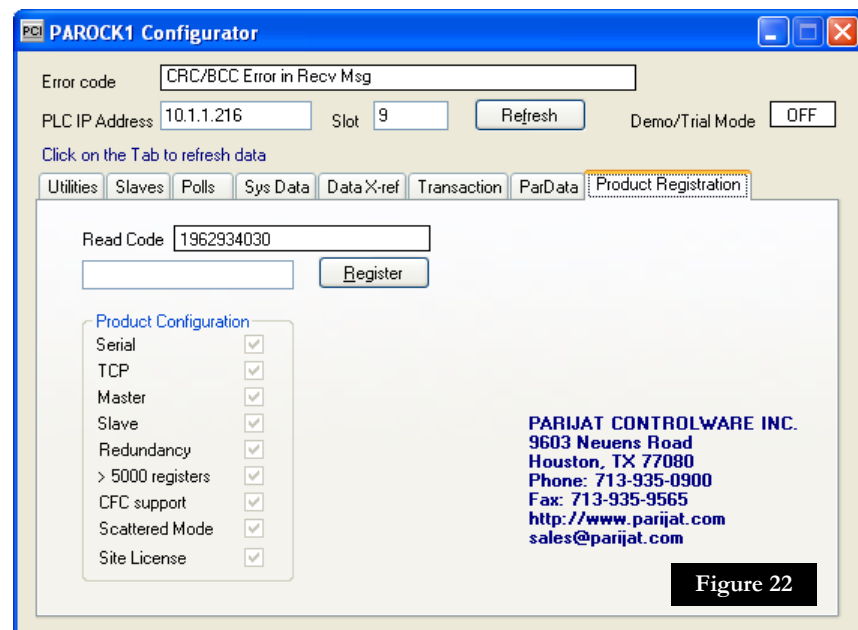

Figure 22
**Product Registration**—Use this section of the application to register your product with Parijat and also to know what options are currently installed. The instruction is always provided in demo/trial mode. This time-locked mode is a fully functional mode for the trial period of about 2 hours after a program-to-run transition of the PLC. You need to use the Parijat Configurator application to unlock/register the product, as is shown in Figure 22. The registration is done on a per PLC CPU basis. Other options are available, contact Parijat for details.